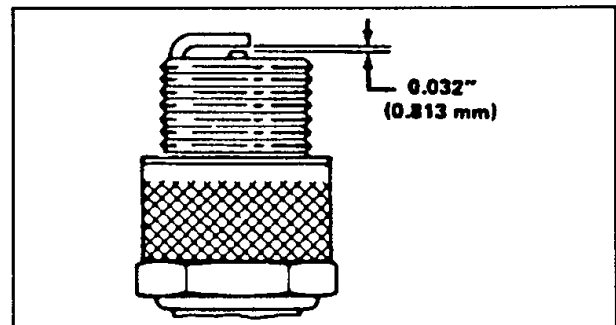

Figure 15
3. Set air gap at 0.032" (0.813 mm) (Fig. 15). Install correctly gapped spark plug and gasket seal. Tighten plug firmly to 15 ft-lb (20.4 N.m).